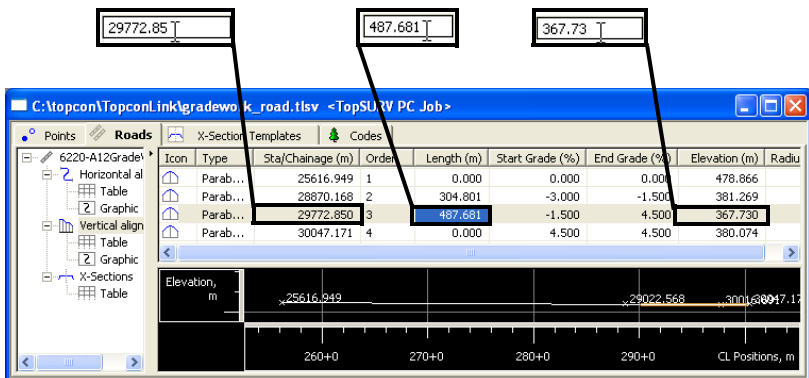

Figure 6-54. Editable Fields on the Roads Tab – Vertical Alignment Example
- In the vertical alignment panel, you can edit only the Sta/Chainage, Length, and Elevation fields directly on the Roads tab. Click-pause-click to access editable fields. Figure 6-54 shows an example of editing fields on the Roads tab, vertical alignment panel.